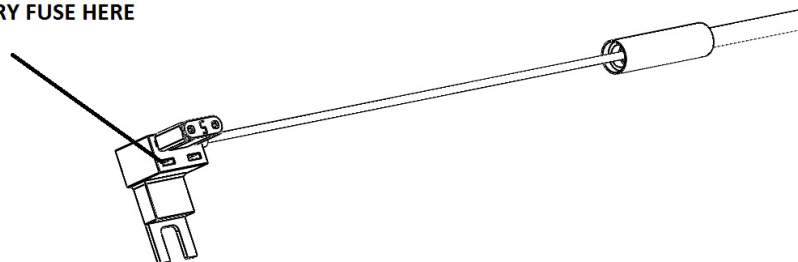

FIGURE 1-5
7. Locate the fuse box and remove the top cover to gain access to the fuses. Using a voltmeter or test light, find a fuse that is “hot” when the key is in the “on” position. Remove the selected fuse and replace it with the mini-fuse tap. Take the factory fuse you just removed and place it in the empty spot on the fuse tap. **FIGURE 1-5**